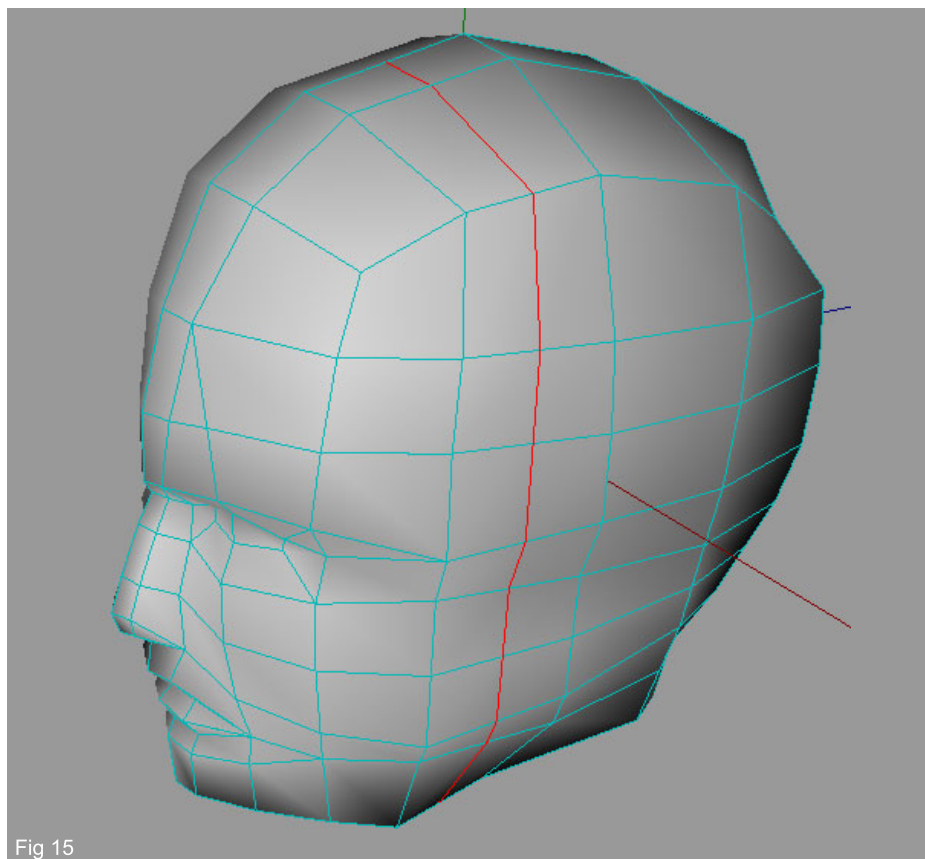

Fig 15
15. Add a new subdivision using "Edge Cut" once more. Fig 15